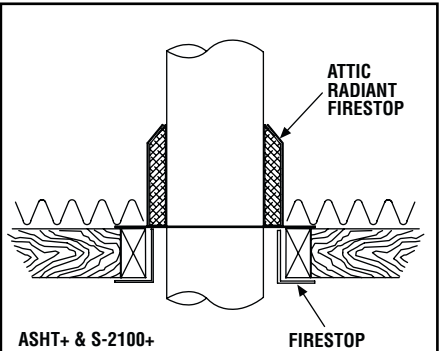

Figure 17A
From below, install a firestop in each ceiling/floor separation through which the chimney will pass. At the attic level, install an attic radiation shield from above (see **Figures 17A & 17B**).
3. Use another elbow to turn the chimney vertically. Secure the elbow, using three (3) 1/2" (12mm) screws.
5. From below, install a radiation shield (**Figure 17A**).